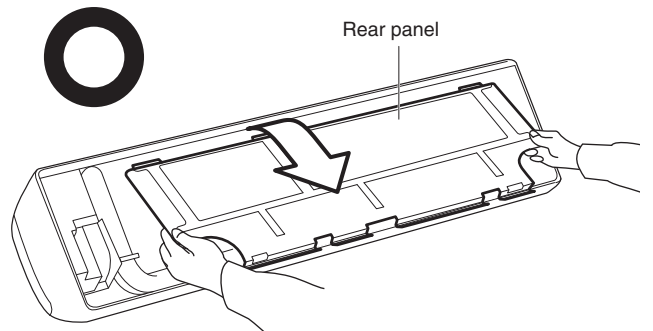

Fig. 1-56
- (3) Remove the rear panel by grasping the sections shown in Fig. 1-56 and pulling it in the direction shown by the arrow.